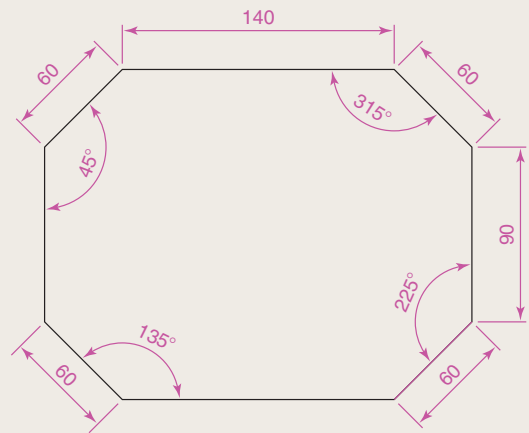

Fig. 2.30 Exercise 3
- Using the **Line** tool, construct the outline Fig. 2.30.